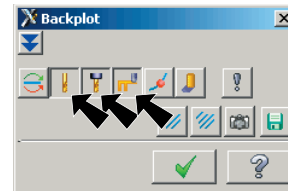

Fig. 12
Step 2. Turn on (depressed) **Display tool** , **Display holder**  and **Display rapid moves**  in the Backplot dialog box, **Fig. 12**.